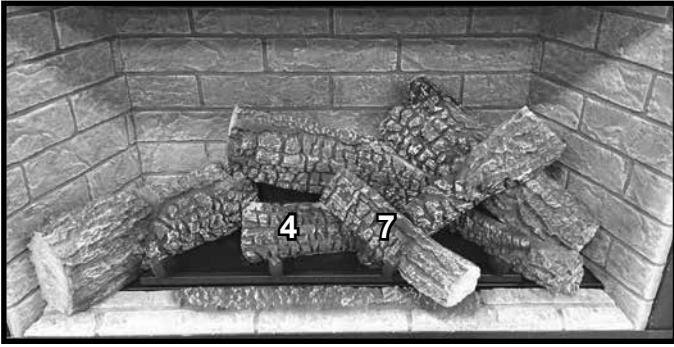

Figure 36. Log #7 Installed
**LOG #7:** Locate the notch on log #7. Place notch over grate tine and burnout end of log in notch of log #4. See Figure 36.